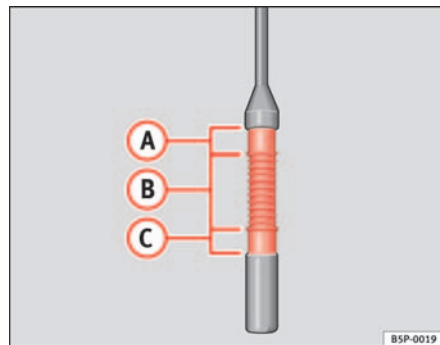

Fig. 123 Engine oil dipstick.
- Pull the dipstick out again and check the oil level ⇒ page 176, fig. 123.
If the oil level is in area ⇒ page 176, fig. 123 **(A)**, do not top up with oil.